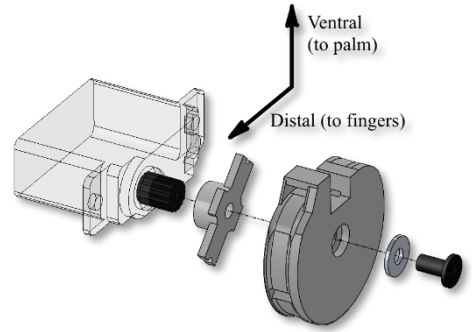

Figure 18: Servo spool installation on servo
3. Install the servo spool on the servo, using the plus-shaped servo horn with ends clipped, ensuring that the zip-tie receiving end is at the top of the servo (most ventral when mounted in the palm). See Figure 18.